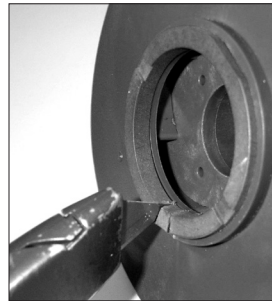

Figure 23
- The thrust ring (item 8A) is held in-place with a snap fit with a ridge. Using a razor, knife, or side cutters, cut a notch out of the thrust ring. Pull ring up and out of the holder. See figures 23 & 24.